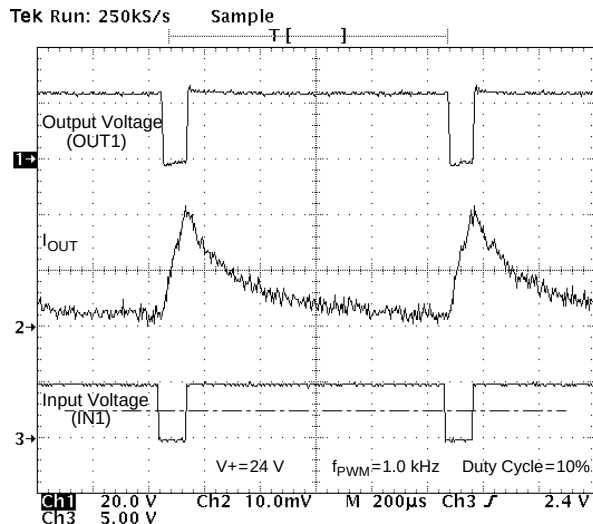

Figure 10. Output Voltage and Current vs. Input Voltage at $V^+ = 24\text{ V}$, PMW Frequency of 1.0 kHz, and Duty Cycle of 10%
21. The outputs can be PWM controlled from an external source. This is typically done by holding one input high while applying a PWM pulse train to the other input. The maximum PWM frequency obtainable is a compromise between switching losses and switching frequency. Refer to Typical Switching Waveforms, Figures 10 through 17, pp. 10–11.